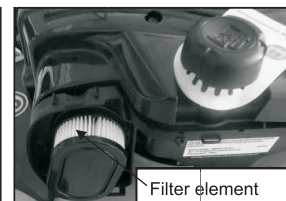

Fig. 17B
3. Wash filter element in soapy water. (Fig. 17B) **DO NOT USE GASOLINE!**